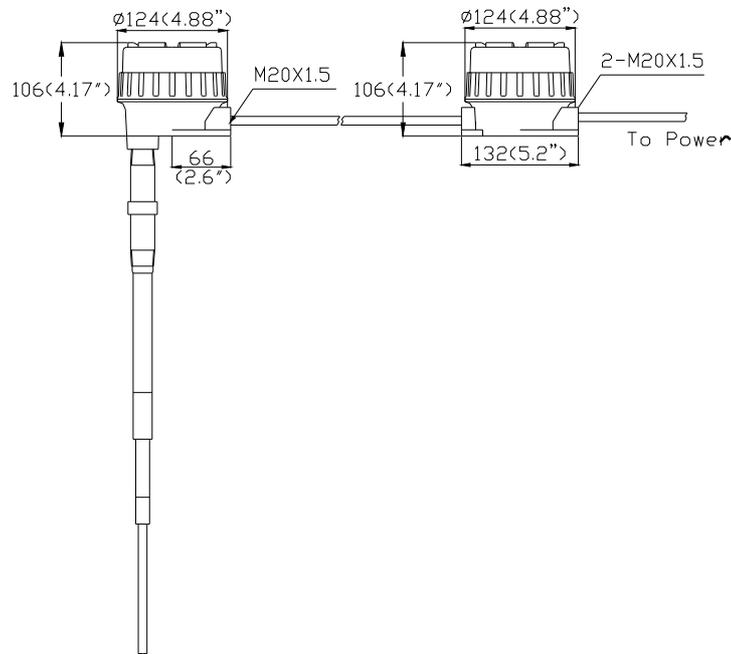

Figure 4.2 AVI-PDU remote system mounting
A remote system separates the probe from the electronics with a special coaxial cable (provided by factory). The cable can be field shortened and re-terminated as required. DO NOT coil excess coax cable. Connect the Center wire of the cable to the center wire terminal of the unit (CW), connect the coaxial cable shield to the driven shield terminal (SHD), and the ground wire to the GND terminal. The ground wire is usually an independent wire pulled with the coax cable. See figure 4.2 UFI 7P01 Remote mounting.